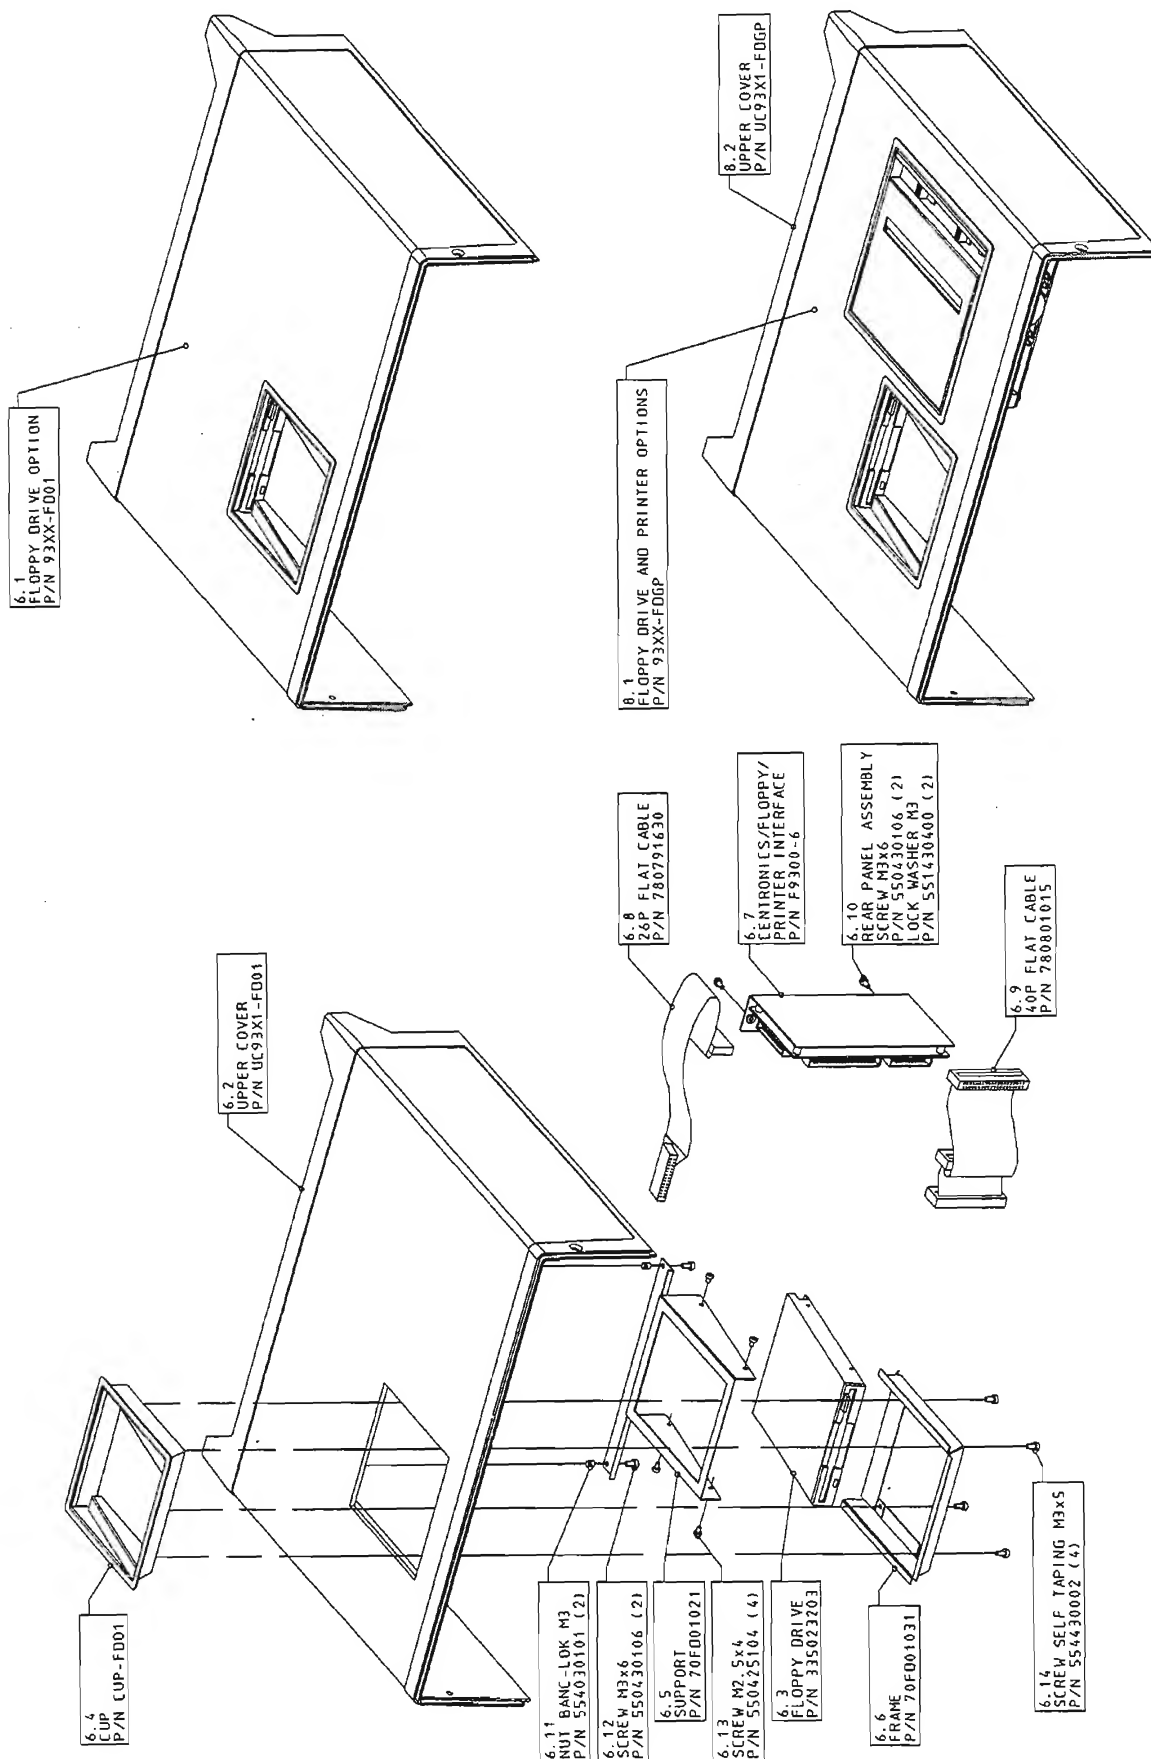
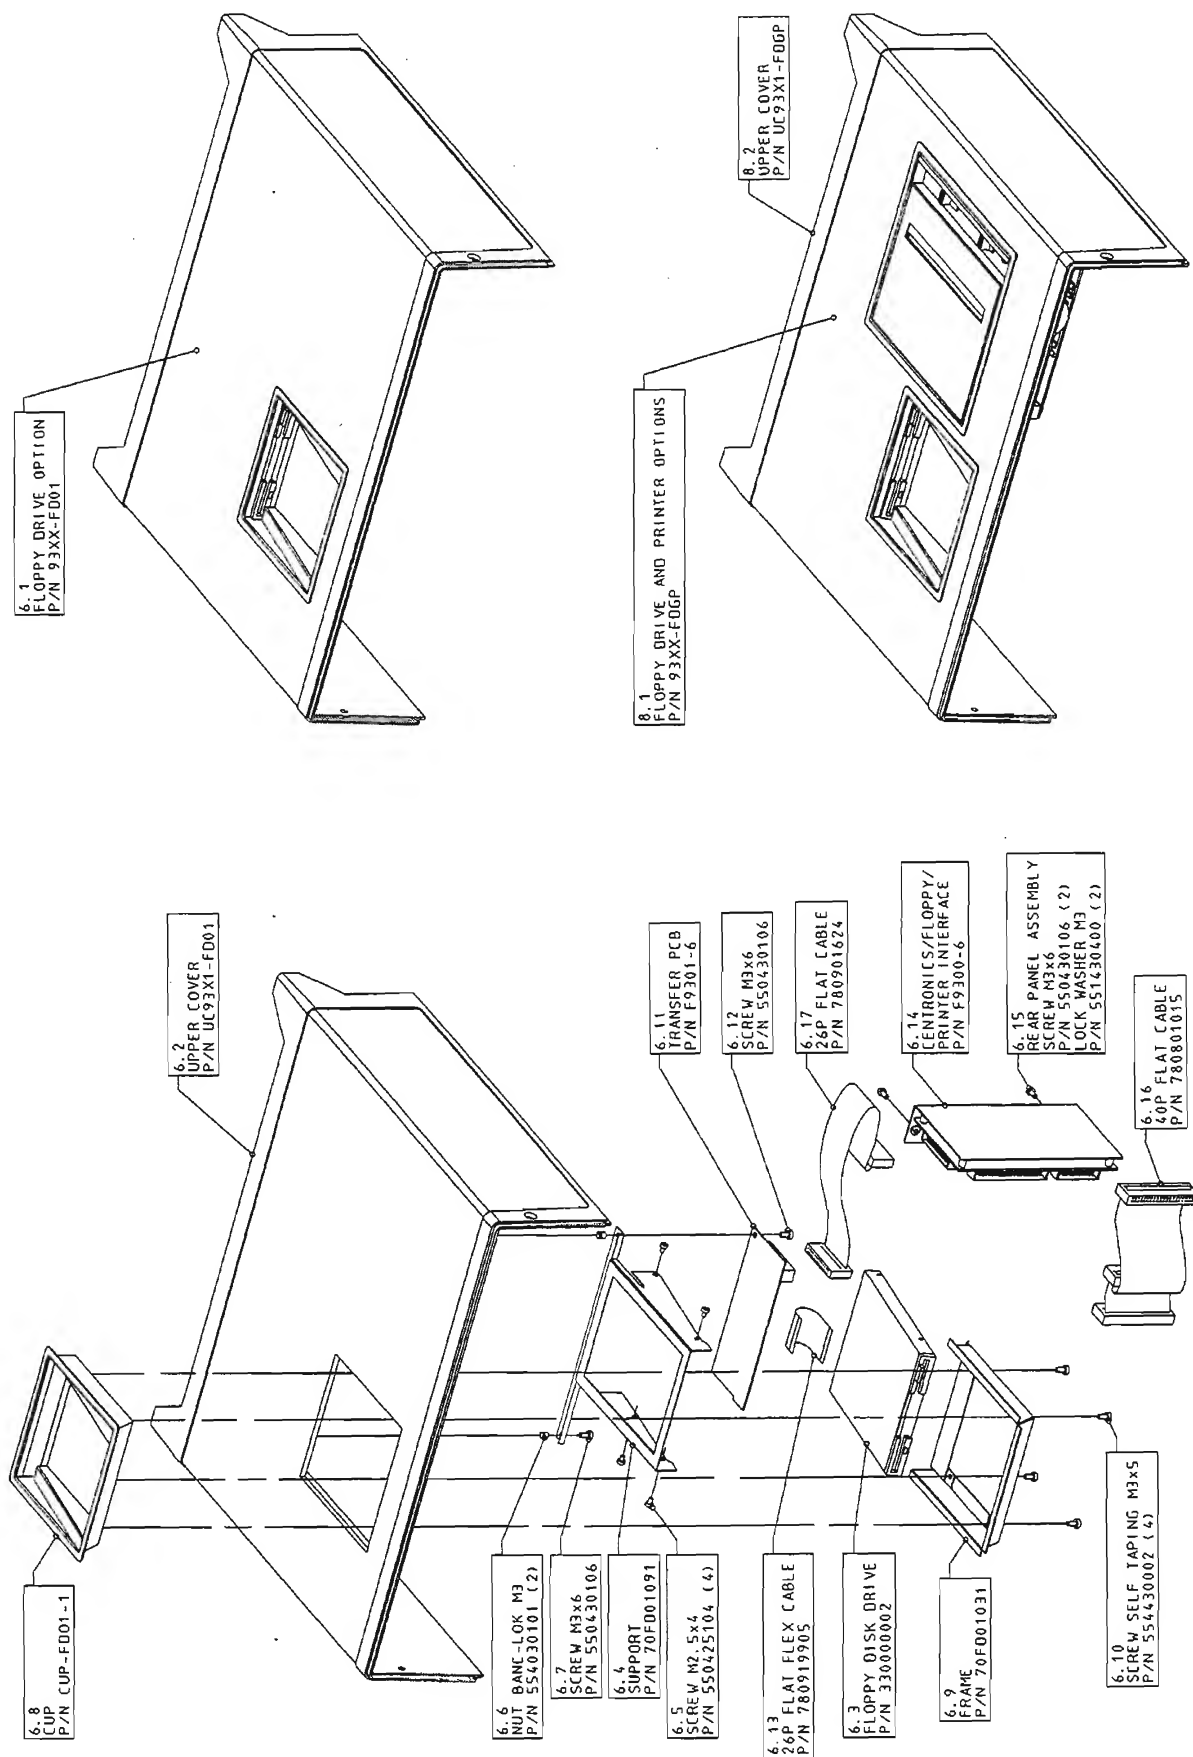

Figure 6.5 : Floppy Drive Assembly P/N: 335023203
Figure 6.6 : Floppy Drive Assembly P/N: 330000002
- Disconnect the flat ribbon cable from the F9300-6 interface (see figure 6.5 & 6.6).
- Remove the support 70FD01021 (See figure 6.5) or 70FD01091 (See figure 6.6)
- Remove the frame 70FD01031 (See figure 6.5 & 6.6) from the cover.
- Disconnect the flat cable P/N : 780801015 from the F9300-4 GPIB/RS232 board (see figure 6.6 or 6.7).